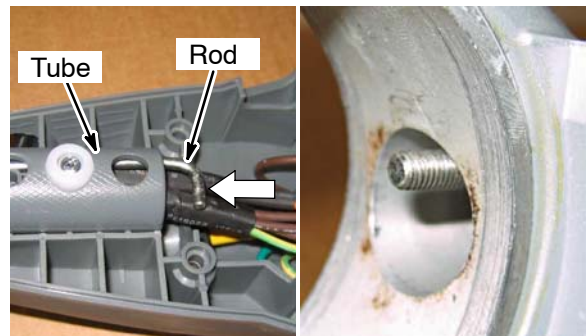

Fig. 10
- Position the rod elbow as shown and push the rod inside the tube until the threaded end protrudes out the opposite end (Figure 10).